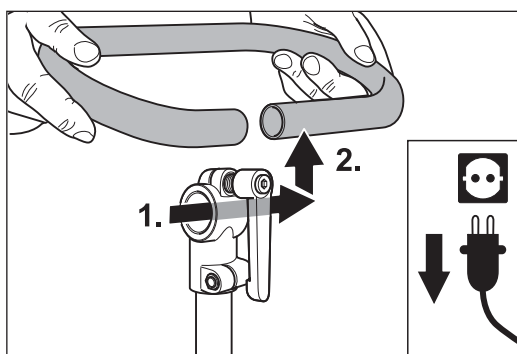

Fig. 15 Removing the handlebar.
- 4 Pull the handlebar out of the clamping piece and remove it upward (Fig. 15). Put the handlebar aside.